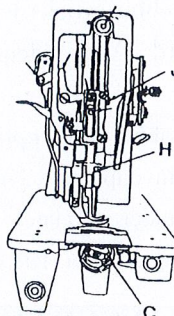

Fig.3
- 2) Holding the bottom of the needle bar rock frame H (Fig.3), move it as may be required to get the correct position to the feed dog.
You can also adjust this at its lowest point. In this case, normally the measurement between the surface of the needle plate and the upper end of the needle eye is 11 mm. To adjust this, loosen the screw J (Fig.3) and raise or lower the needle bar as may be required. Then, tighten the screw upon completion of adjustment.